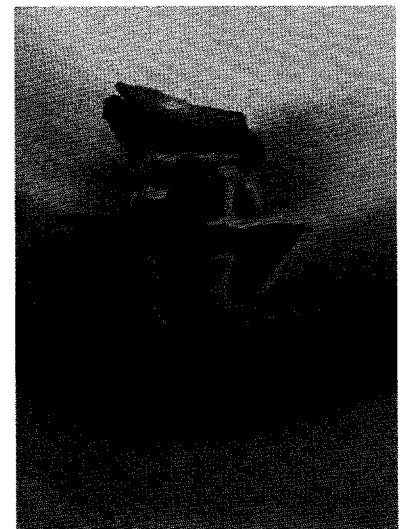

Figure 14-8
7. Use 80 grit sandpaper to rough the epoxy to the proper level and contour (**Figure 14-7**). Use 240 sandpaper to smooth out the finish and duplicate the original surface (**Figure 14-8**). If additional filling is required, the adhesive can be used again as filler.
8. Apply four (4) medium coats of CLUB CAR'S Surface Primer, part # 1015163, flashing 3 to 5 minutes between coats. Air dry primer overnight or 12 hours.